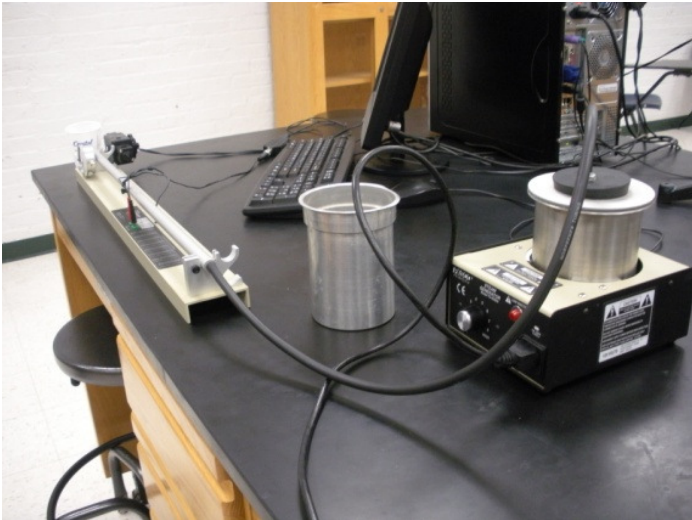

Figure 1
7. Connect the hose to the boiler and to the rod. On the other end of the rod attach the drainage dump. (Figure 1)